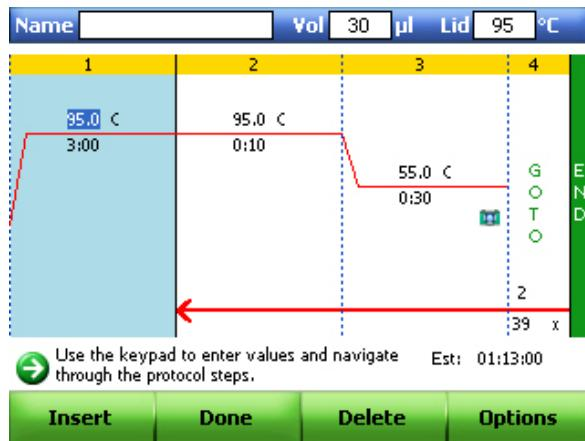
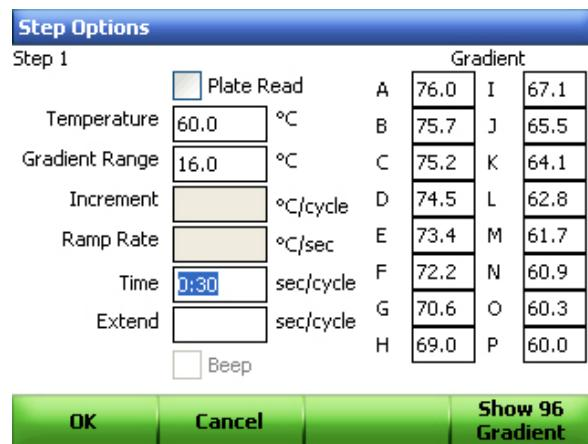

Figure 38. Default real-time PCR protocol.
Figure 39. Step Options window.
1. Select **New Protocol (F4)** in the start-up screen to open a new protocol template (Figure 38).
3. (Optional) To insert a new step, select the **Insert** (F1) button. To delete a step, select the **Delete** (F3) button (Figure 38).
4. (Optional) To change step options, select the **Options** (F4) button (Figure 38). In the **Step Options** window, select a parameter to change, including the temperature and time of the step, or add/remove a plate read to the step (Figure 39).
- When creating a new protocol, you have the option to save it with a name. Use the arrow keys to navigate to the Protocol **Name** box and then press the alphanumeric keys to type a new protocol name (Figure 38)
- To change the default sample volume, select the sample volume box (**Vol**) (Figure 38). Use the alphanumeric keys to enter a new sample volume in microliters.
- To change the default lid temperature, select the lid temperature box (**LID**) by pressing the arrow keys (Figure 38). Use the alphanumeric keys to enter a new temperature. For the CFX96 system, use a lid temperature of 105°C; for the CFX384 system use a lid temperature of 95°C
- To run the protocol, click the **Done** (F2) button in the Protocol window (Figure 38).